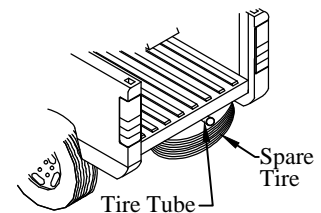

Figure 8: Spare tire and spare tire tube location.
- 1. Lower** the spare tire (Figure 8).
- 4. Trim** the spare tire tube so that it is even with the rear of the truck box (Figure 8).